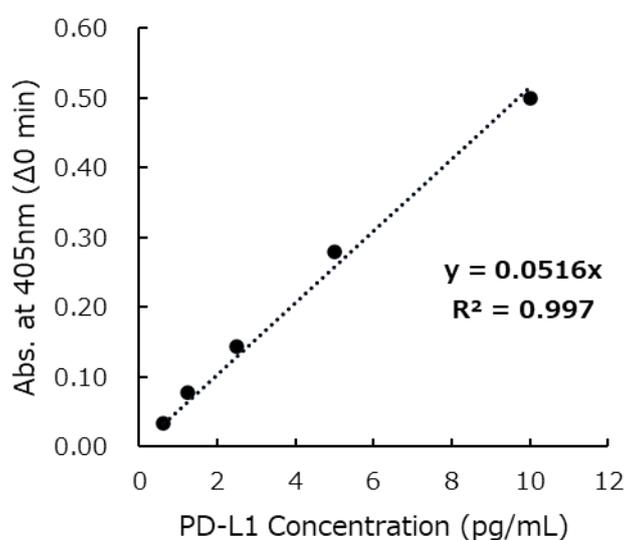

Fig. 5 Calibration curve
The absorbance values (405 nm ($\Delta 0$ min)) and coefficients of variation (CV) for the standard PD-L1 concentrations (pg/mL) are shown in Table 4 (measurement wavelength: 405 nm [primary wavelength], 660 nm [reference wavelength]; measurement time: 55 min). The calibration curve generated from the absorbance values listed in Table 4 is shown in Fig. 5.